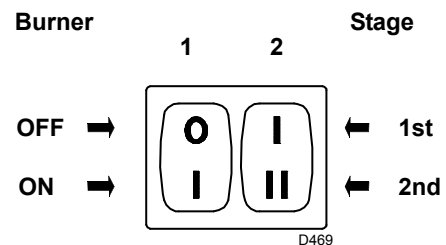
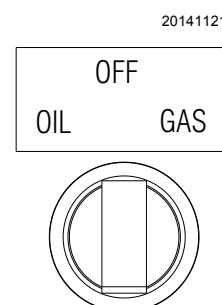

Fig. 33
Fig. 34
Keep the burner operating at 1st stage by setting the switch 2)(Fig. 33) to the 1st stage position. The fan damper can be adjusted by operating the orange level of the servomotor ("Servomotor adjustment" on page 33).
Turn switch 2) (Fig. 33) to the 2nd stage position. The fan damper can be adjusted by operating the red level of the servomotor ("Servomotor adjustment" on page 33).
Start the burner by closing the remote controls, with the switch 1)(Fig. 33) in the "ON" position and with the fuel selector switch set to "OIL" (Fig. 34).
The pump can be considered primed when the light oil starts coming out of the screw 3)(Fig. 23 on page 23). Stop the burner: set switch 1)(Fig. 33) to "OFF" and tighten the screw 3).
- switch 1)(Fig. 33 on page 30) in "**BURNER ON**" position;
- switch 2)(Fig. 33 on page 30) in "**1st STAGE**" position;
Turn switch 2)(Fig. 33) to the 2nd stage position: the servomotor will open the air damper on the value previously set for the light oil and will control the opening of the 2nd stage VR2 gas valve.
Turn switch 2)(Fig. 33) to the 1st stage position: the servomotor will close the air damper on the value previously set for the light oil and will control the opening of the 1st stage VR1 gas valve.